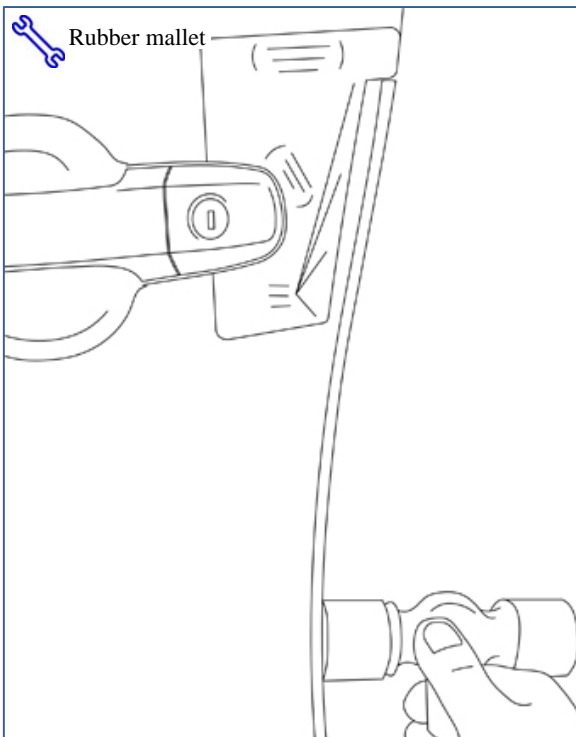

Fig. 1-8
(5) Continue tapping the channel onto the door edge moving toward the top of door before proceeding down the entire length of the DEG. Use your other hand to steady and guide the DEG as you go (Fig.1-8).